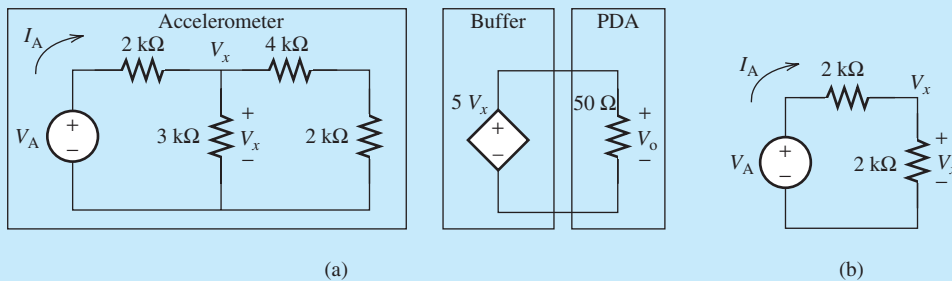

FIGURE 3.42 (a) The circuit model for the accelerometer and the PDA; (b) equivalent circuit for the accelerometer.
To avoid having the PDA overload the accelerometer's resistive network, it is isolated from the accelerometer using a buffer, modeled by the dependent voltage source. The accelerometer gives the acceleration as a varying output voltage, V_A . The voltage, V_A , ranges from 0 to $V_{\max} = 5\text{ V}$. The circuit model is shown in Figure 3.42. To calibrate the accelerometer and the PDA, the inventor needs to find the circuit parameters as follows:
- Figure 3.42(b) shows the equivalent circuit for the accelerator obtained by finding the equivalent resistance of $3\text{ k}\Omega \parallel (2\text{ k}\Omega + 4\text{ k}\Omega) = 2\text{ k}\Omega$. Using simple voltage division, and taking $V_A = V_{\max}$: